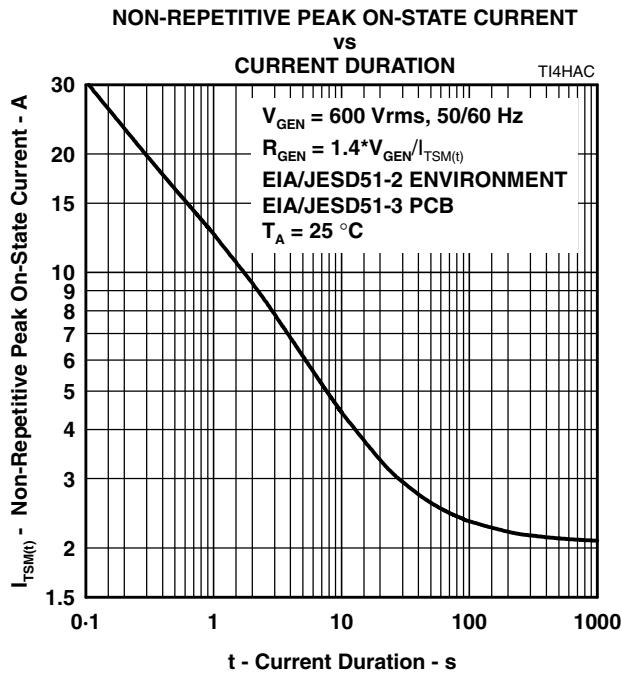

Figure 7.
5. EIA/JESD51-2 environment and EIA/JESD51-3 PCB with standard footprint dimensions connected with 5 A rated printed wiring track widths. See Figure 7 for the current ratings at other durations. Derate current values at $-0.61\%/\text{ }^\circ\text{C}$ for ambient temperatures above 25°C .
The protector can withstand currents applied for times not exceeding those shown in Figure 7. Currents that exceed these times must be terminated or reduced to avoid protector failure. Fuses, PTC (Positive Temperature Coefficient) resistors and fusible resistors are overcurrent protection devices which can be used to reduce the current flow. Protective fuses may range from a few hundred milliamperes to one ampere. In some cases, it may be necessary to add some extra series resistance to prevent the fuse from opening during impulse testing. The current versus time characteristic of the overcurrent protector must be below the line shown in Figure 7. In some cases, there may be a further time limit imposed by the test standard (e.g. UL 1459/1950 wiring simulator failure).